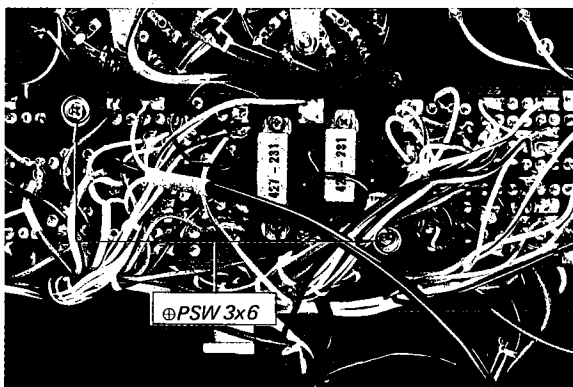

Fig. 2-7. PC board removal
2. Remove the two screws ($\oplus$ PSW 3 $\times$ 6) securing the PCB to the front subchassis as shown in Fig. 2-7.